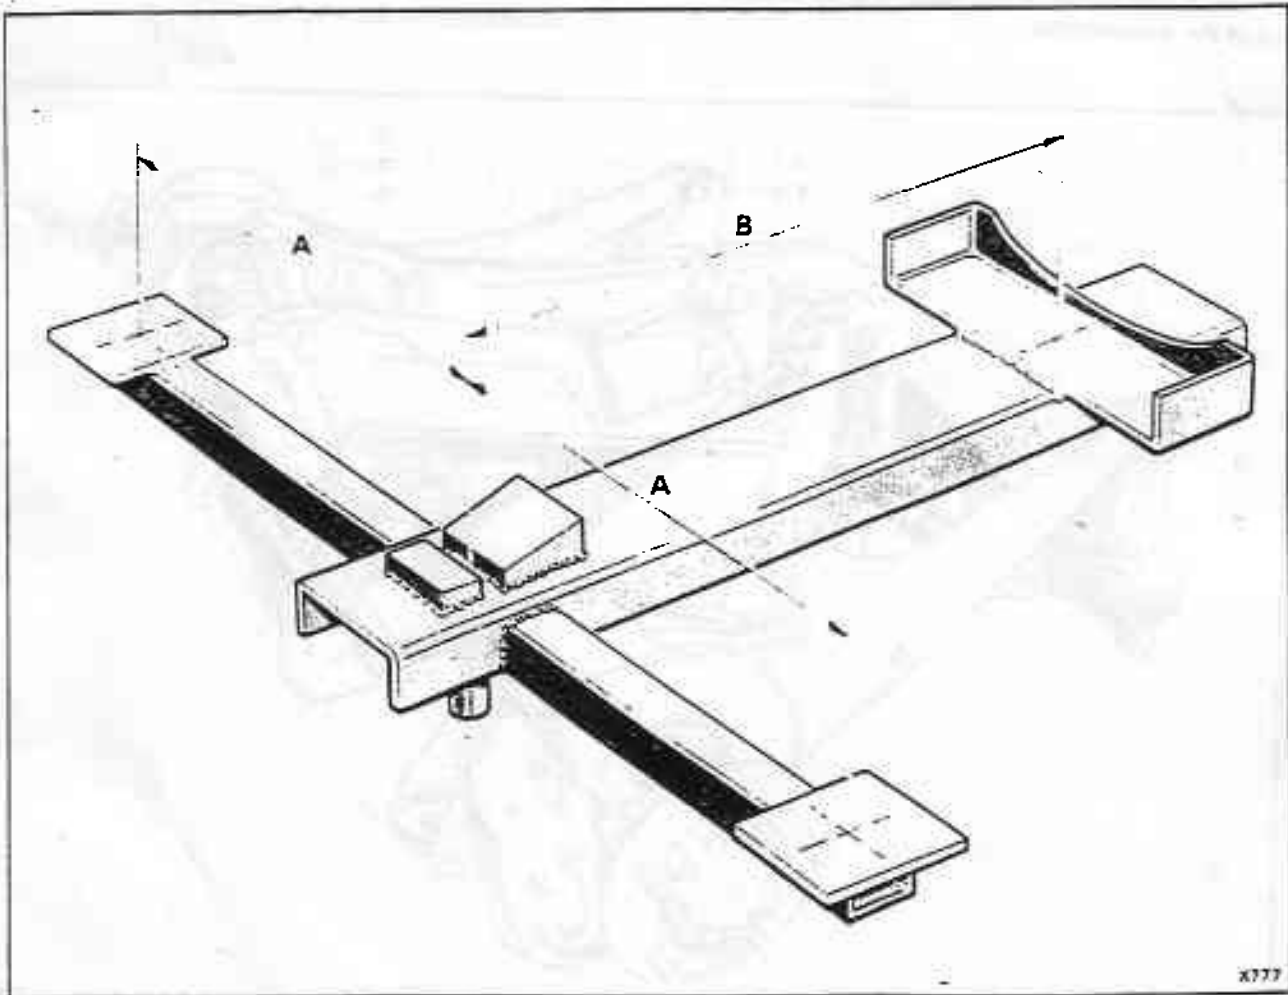

Fig. H7-2 Rear sub-frame removal jig general dimensions
18. Fit a frame similar to that shown in figure H7-2 onto a trolley jack. Raise the jack and position the frame beneath the sub-frame with the central pad beneath the final drive casing. The two arms should support the trailing arms and the forward pan should support the rear crossmember.